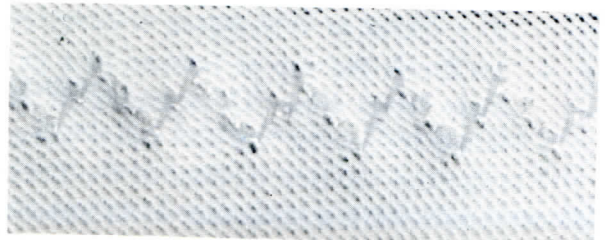

Fig. 87—A step zigzag (3 and 3) stitch should be used when more than 35 per cent stretch is required.
3) using a stitch type that will permit the desired degree of stretch. A lock stitch seam with 20 stitches per inch will permit about 25 per cent stretch. A chain stitch seam with 20 stitches per inch will permit about 30 to 35 per cent stretch. Either a plain zigzag stitch or a step zigzag (3 and 3) like that shown in Figure 87 should be used when more than 35 per cent stretch is required.